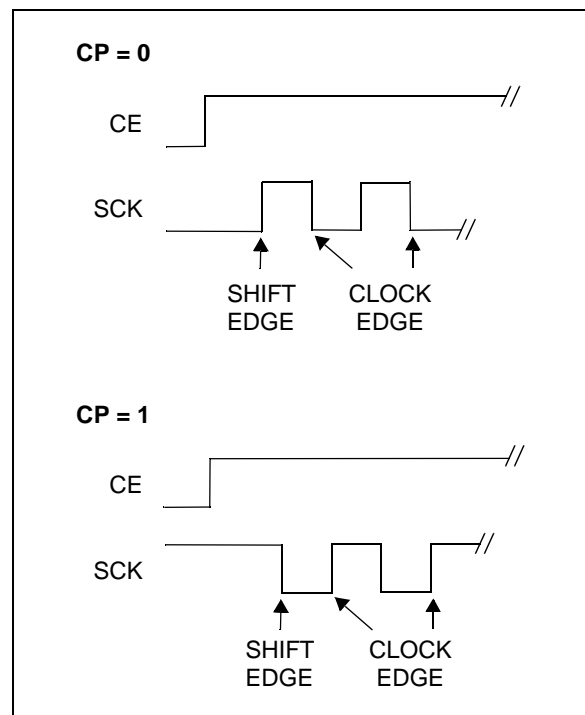
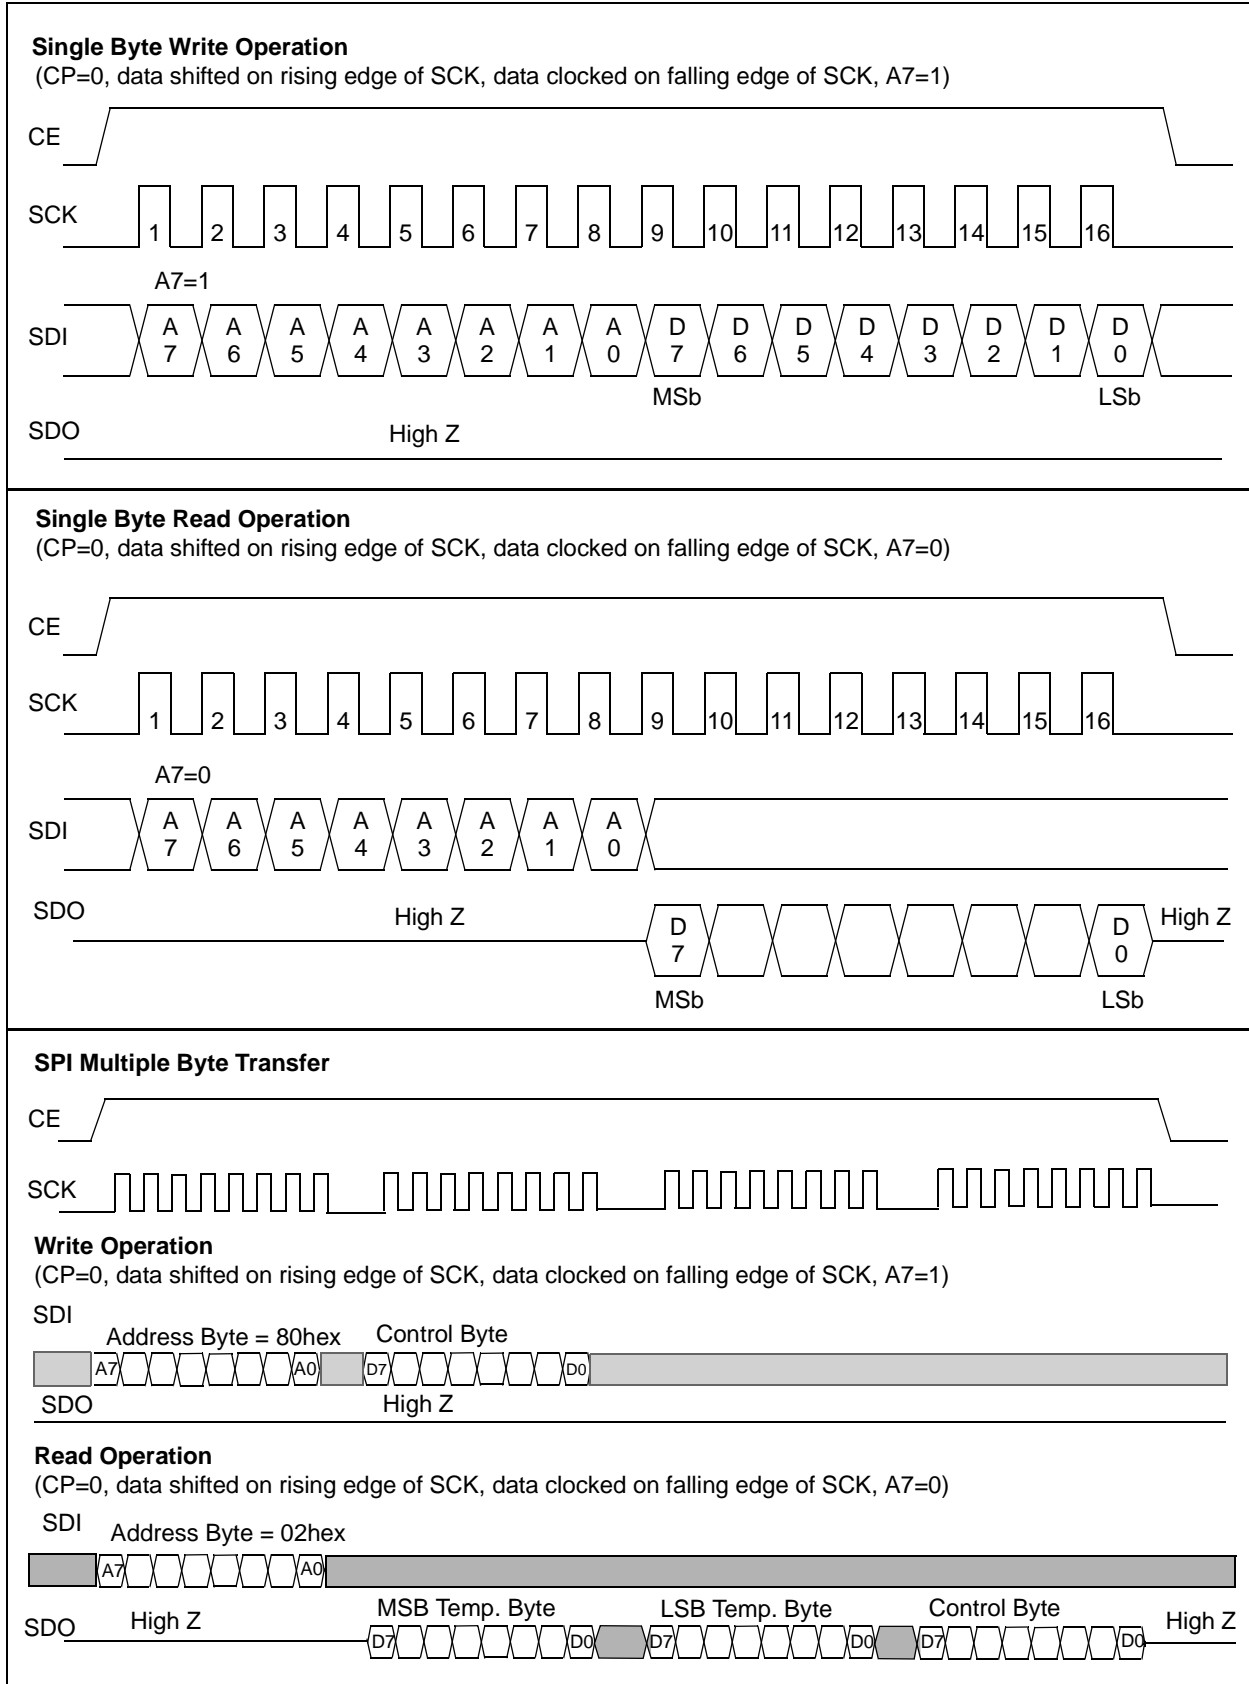

FIGURE 4-2: Serial Clock Polarity (CP) Operation.
FIGURE 4-3: Serial Interface Timing Diagrams (CP=0).
TC72 has the capability to function with either an active-high or low SCK input. The SCK inactive state is detected when the CE signal goes high, while the polarity of the clock input (CP) determines whether the data is clocked and shifted on either the rising or falling edge of the system clock, as shown in Figure 4-2. Table 4-3 gives the appropriate clock edge used to transfer data into and out of the registers. Each data bit is transferred at each clock pulse, and the data bits are clocked in groups of eight bits, as shown in Figure 4-3.
Data can be transferred either in a single byte or a multi-byte packet, as shown in Figure 4-3. In the 3-byte packet, the data sequence consists of the MSb temperature data, LSb temperature data, followed by the Control register data. The multi-byte read feature is initiated by writing the highest address of the desired packet to registers. TC72 will automatically send the register addressed and all of the lower address registers, as long as the Chip Enable pin is held active.
The TC72 uses the CE, SCK and SDO lines to output the Temperature and Control register data. Figure 4-3 shows a timing diagram of the read operation. Communication is initiated by the chip enable (CE) going high. The SDO line remains at the voltage level of the LSb bit that is output and goes to the tri-state level when the CE line goes to a logic low level.
Data is clocked into the Control register in order to enable TC72's power saving shutdown mode. The write operation is shown in Figure 4-3 and is accomplished using the CE, SCK and SDI lines.